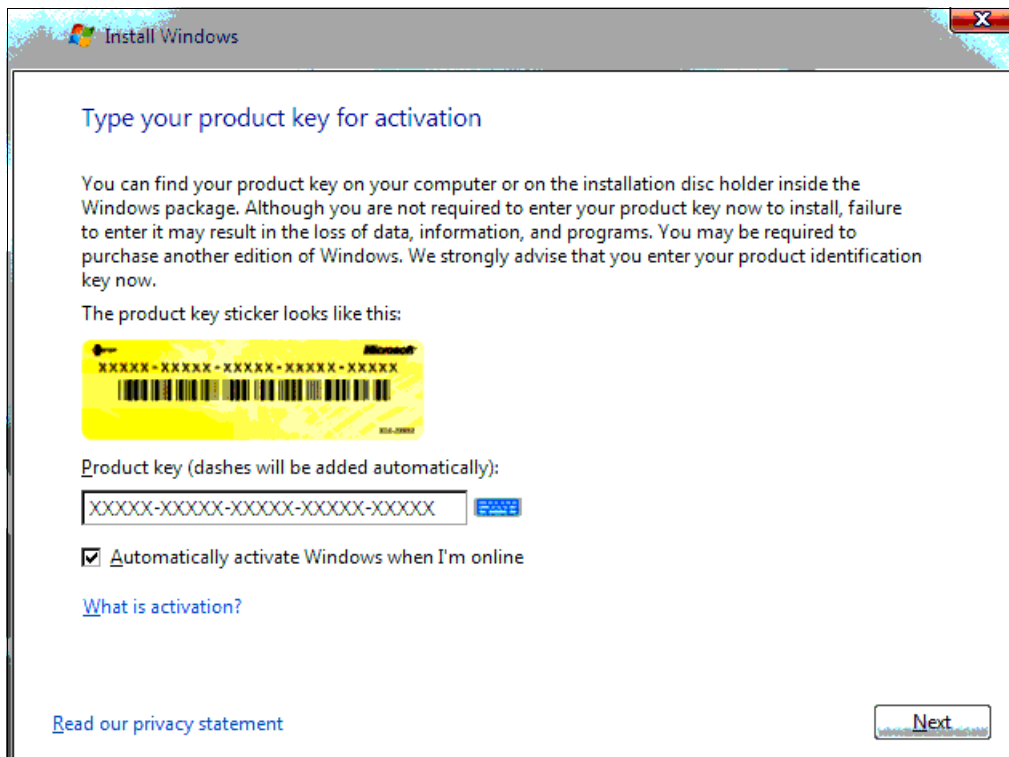

Figure 6-2 Type your product key for activation panel
4. (Optional) On the “Type your product key for activation” panel (Figure 6-2), type your 25-character product key to help avoid problems during activation. Click **Next**.